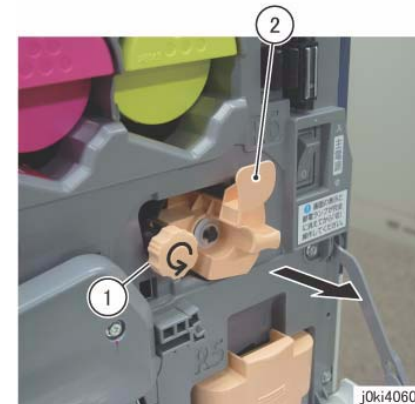

Figure 2 Remove the Transfer Belt Cleaner Assembly
5. Remove the Transfer Belt Cleaner Assembly. (Figure 2)